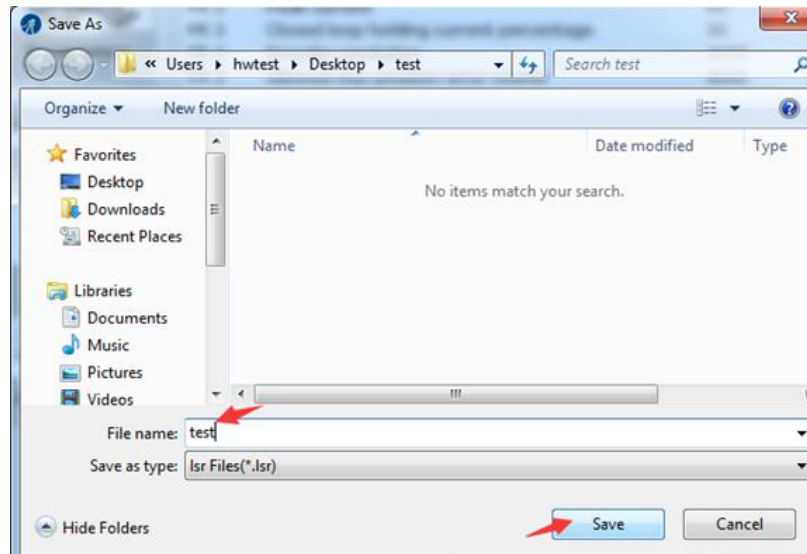

Figure 13: save configuration file
- Open the parameter manage window, click the icon  , then it will show as Figure 13